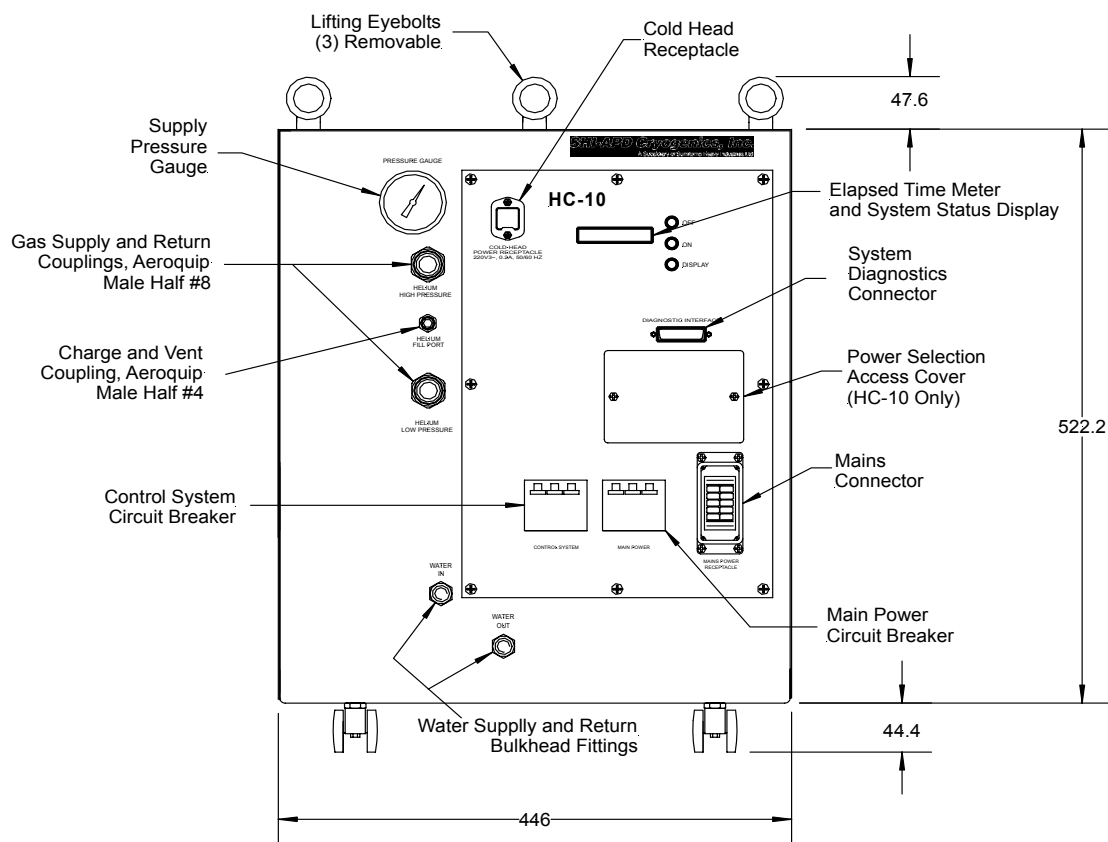
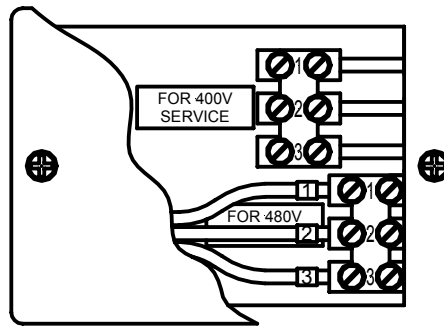

Figure 1 HC-10 and HC-10L Compressor Front View
Figure 2 HC-10 Compressor Electric Service Connections
Front Panel Connections (See Figure 1.)
Front Panel Mounted Items (See Figure 1.)
Remove the shipping container from the compressor. Insert and tighten the three- (3) furnished eyebolts into the top of the compressor. See Figure 1.
Look through the transparent Power Selection Access Cover (shown in Figure 1) to determine and confirm that the wires are connected to the correct terminals to suit the user's electrical service. See Figure 2.
2. Remove the power selection access cover (see Figure 1) to gain access to the electric service terminals. The terminals are shown in Figure 2.